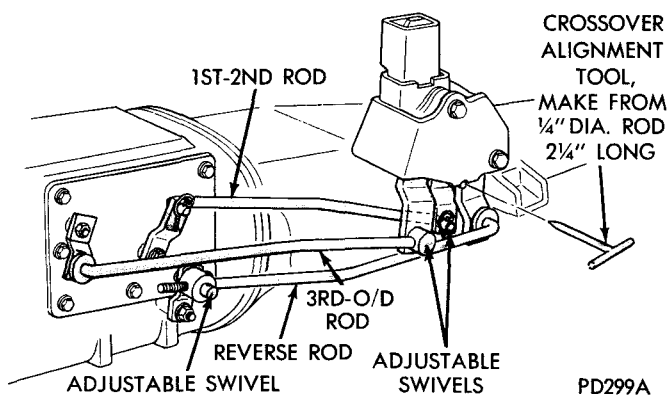

Fig. 4—Gearshift Linkage Adjustment
SERVICE PROCEDURES**SERVICE IN VEHICLE****OVERDRIVE-4 SHIFT LINKAGE****Removal (Fig. 4)**
Installation (Fig. 4)
- (1) Install floor shift lever aligning tool (Fig. 4) to hold the levers in neutral-crossover position.
- (2) With all rods removed from transmission shift levers, place levers in neutral detent positions.
- (3) Rotate threaded shift rods to make length exactly right to enter transmission levers. Start with 1-2 shift rod (it may be necessary to pull clip at shifter end to rotate this rod).
- (4) Replace washers and clips.
- (5) Remove aligning tool and test shifting action.